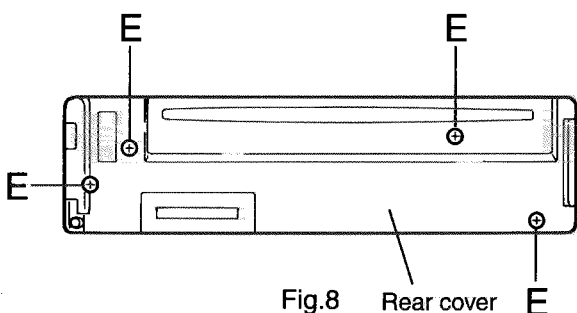

Fig.8
■ **Removing the control switch board (See Fig.8 and 9)**